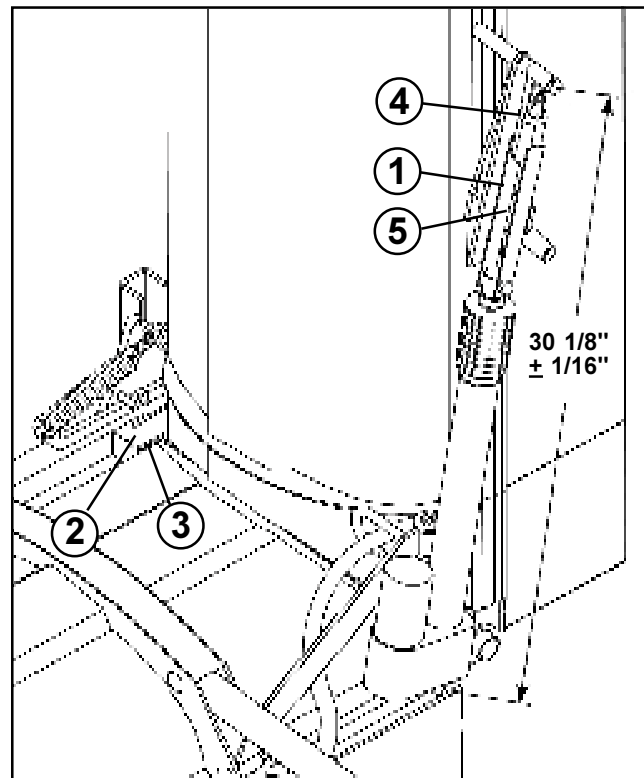

FIG. 4
2. Measure the length of the Actuator and Adjustment Link . It should be $30\text{-}1/8'' \pm 1/16''$ from the center of the Actuator Bolt to the center of the Adjustment Link Bolt. (FIG. 4)